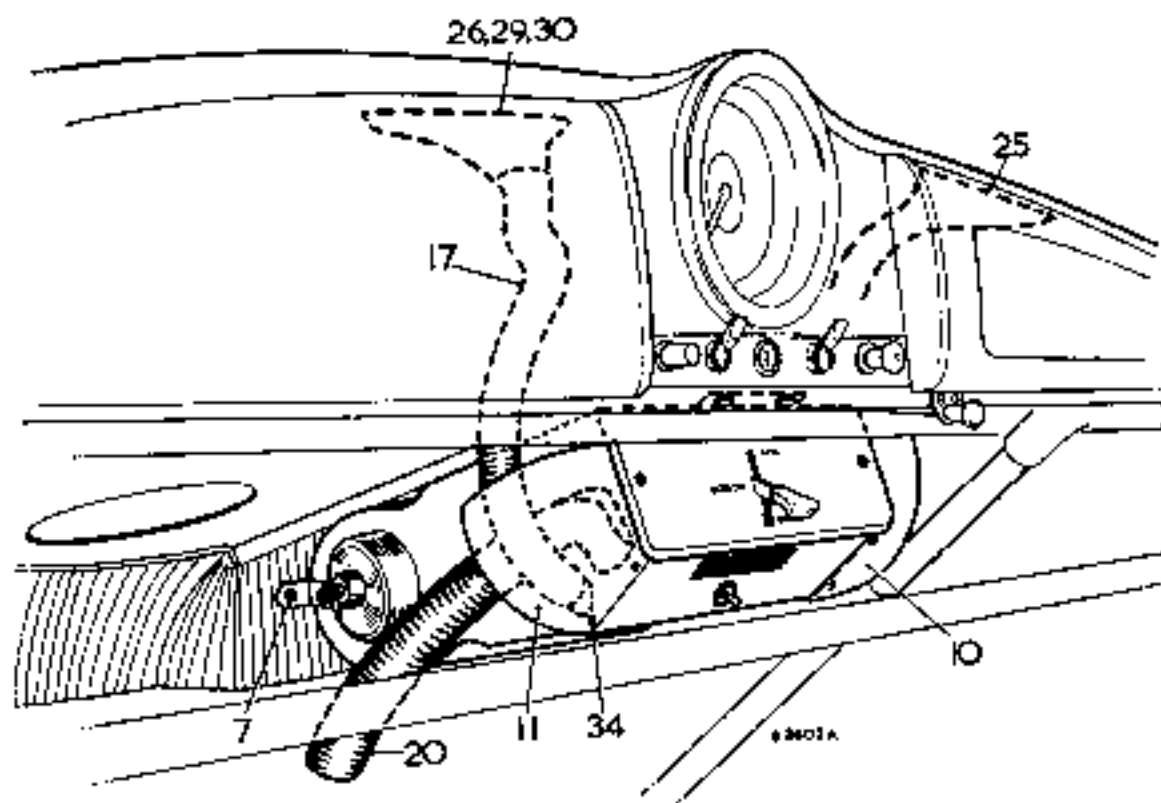
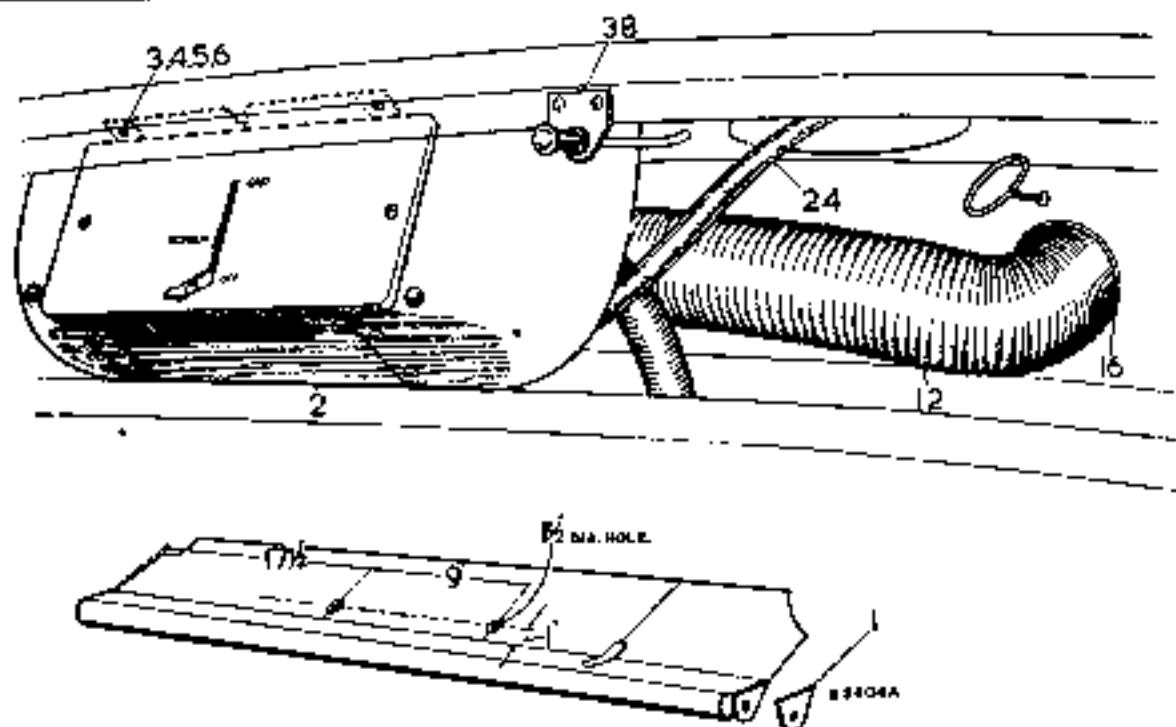

Fig. SS.4
Fig. SS.6
**NOTE.**—The numbers referred to in the text of this Section are to be found in Figs. SS.4 to SS.7.
Push the large diameter air hose (12) over the heater air intake (Fig. SS.6) and secure it with a clip. Push the water hose (18) over the upper heater pipe, and the water hose (24) over the lower heater pipe and secure both hoses with clips (32). Assemble the mounting brackets (7) to the studs projecting from the heater side cover (Fig. SS.4) using the nuts and washers provided.
Position the heater below the fascia panel (see Figs. SS.4 and SS.6), bending the lip of the fascia forward to clear the heater panel and push the air and water hoses through the bulkhead grommets. Loosely fix the heater in position using No. 10 screws, plain washers, spring washers, and nuts (3), (4), (5), and (6), and secure the heater mounting brackets (7) to the weld-studs projecting from the battery box using nuts and spring washers (9) and (8).